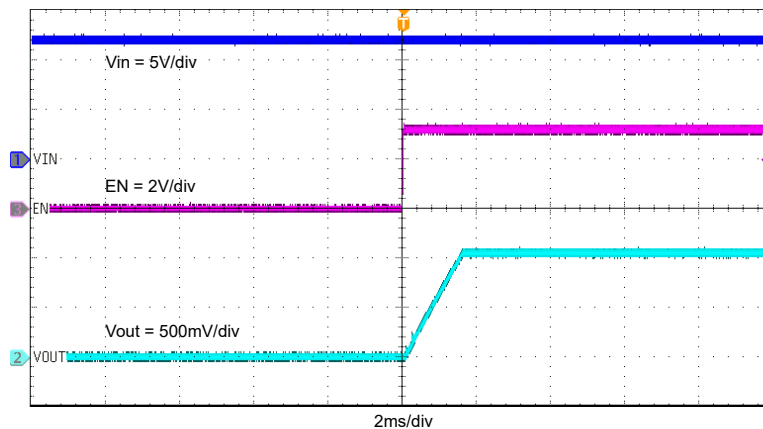

Figure 4-7. TPS562242EVM Start-up Relative to EN
The TPS562242EVM start-up waveform relative to enable (EN) is shown in Figure 4-7. Load is 2 A.